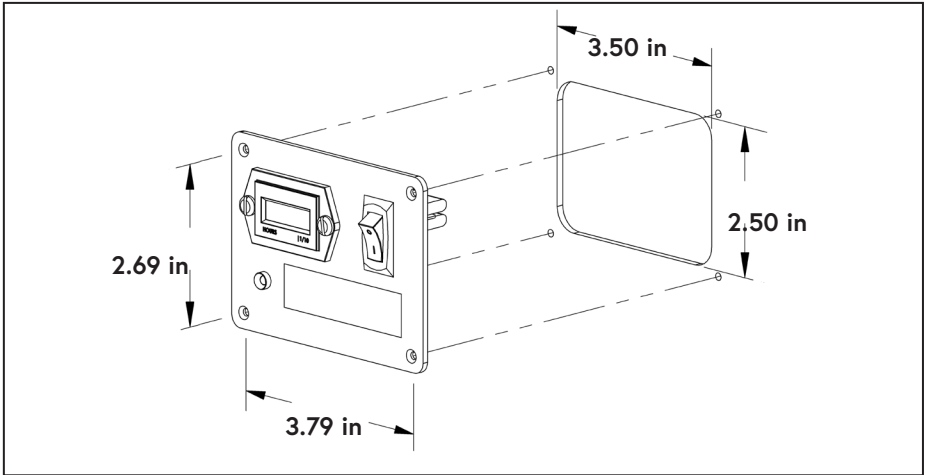

Figure 39 — Interface Panel mounting dimensions
- Install the Interface Panel in a suitable location (Figure 39).